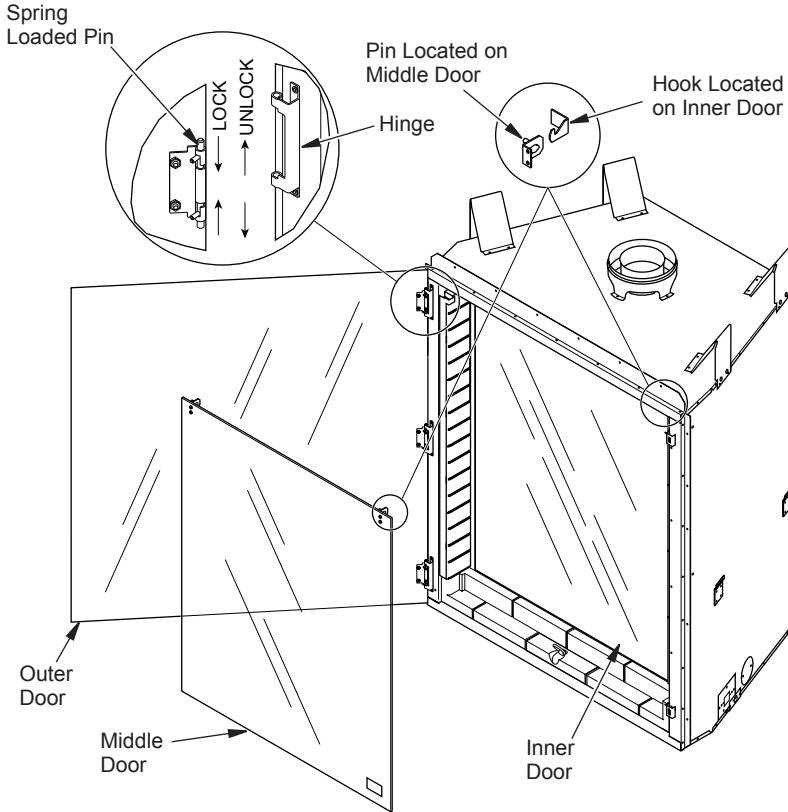

Figure 26 - Removing/Installing Middle Door
Middle door hangs on 2 hinges from top of inner glass door (see Figure 26, page 19).
2. Angle middle door so top goes into fireplace first. Hang middle door on brackets at top of inner door (see Figure 26, page 19).
2. There are three spring loaded pins on outer door. Set pins to the locked position (see Figure 26).
3. Position outer door so pins line up with mating hinges on fireplace. Holding door in place, release locks on spring loaded pins (see Figure 26).
2. Remove middle door by lifting from hinges (see Figure 26). Set aside to avoid scratches or damage.